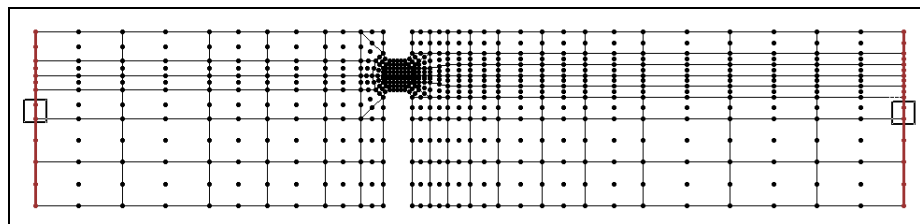

Figure 3 Location of the boundary condition nodestrings
A steady state model such as this can only have constant boundary conditions. The flow and head boundary conditions will be defined at nodestrings on opposite sides of the model as shown in Figure 3.
1. Choose the **Select Nodestrings**  tool. An icon appears at the center of each nodestring, as shown in Figure 3.